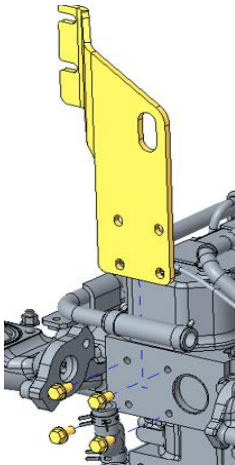

Figure 3
4. Install rear DOC mount bracket (4) on cylinder head location as shown in the Figure 3 using M8X1.25 - 16mm bolts (9).